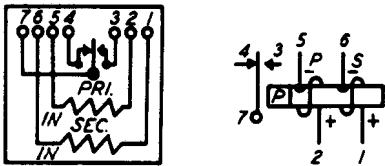

Fig. 37 – Winding and Spring Terminal Arrangement as Viewed From the Rear (terminal side) — 206-, 227-, 231-, 239-, and 280-Type Relays
2.48 The contact and winding terminals are numbered consecutively from right to left facing the terminal side of the relay as shown in Fig. 37.